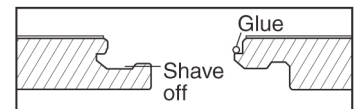

Figure 6
2. Using a small plane or knife plane, carefully shave off the ledge of the groove. (Figure 6)